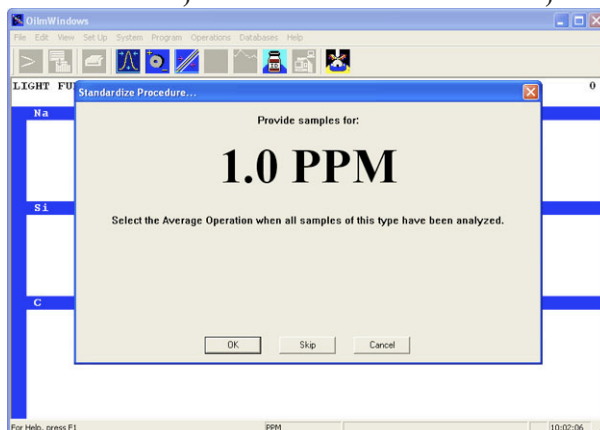

Figure 2-9, Second Standardization Sample (Standard 2)
5. After making as many measurements as necessary to obtain a good average, press function key 6 (F6), click the average icon, or select Operations/Average from the pull down menu. The average of each element will be calculated and displayed below each element's column of measurements. To make a printout of the measurements and their average, press the print icon. Automatically, the next dialog will appear providing instructions to make measurement of the 1 ppm standard as shown in Figure 2-9.